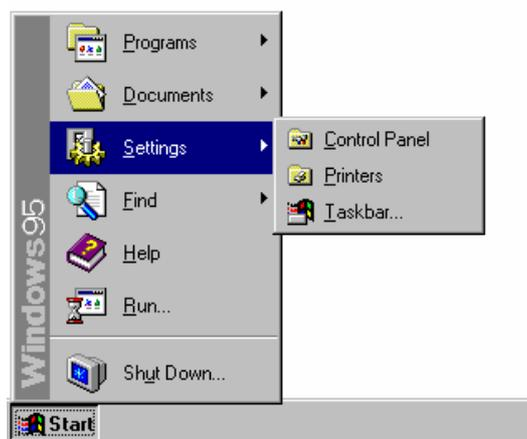
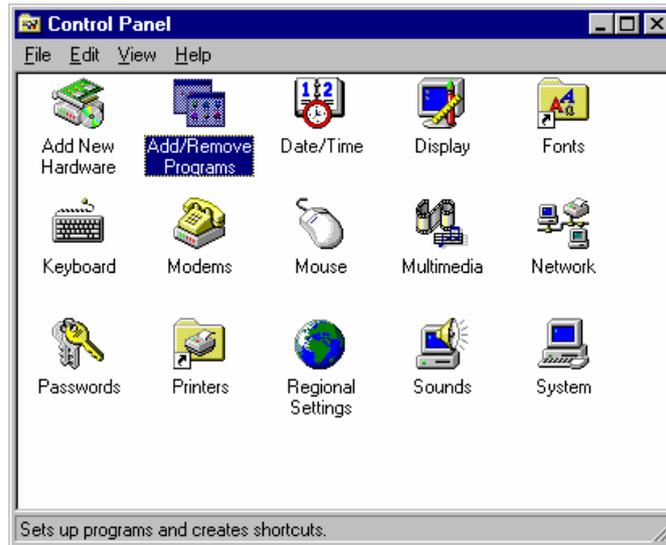

Fig. 12.1 Windows 95 Start Menu
Fig. 12.2 [Control Panel]
- (1) Click [Settings] - [Control Panel] on the [Start] menu, as shown in Fig. 12.1. Fig. 12.2 shows the [Control Panel] window.
- (1) Select [Instruments] - [Port Setting] from the [Spectra Manager] menu. The dialog box shown in Fig. 12.1 will be displayed.